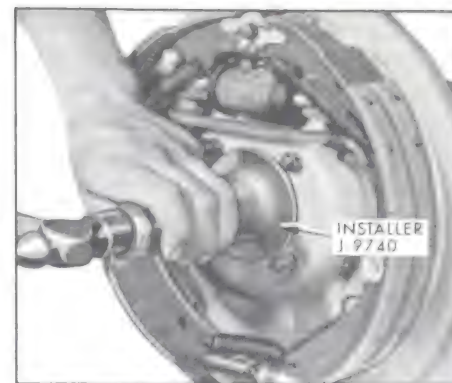

Figure 6-10—Installing Axle Shaft Oil Seal
3. Position seal over Installer J-9740 and drive seal straight into housing until installer bottoms against wheel bearing shoulder. See Figure 6-10.